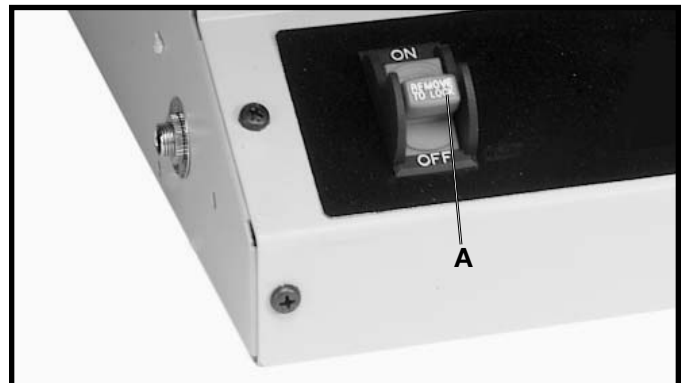

Fig. 14
The on/off switch (A) Fig. 14, is located on the front of the Router/Shaper cabinet. To turn the machine “ON,” move the switch (A), up to the “ON” position. To turn the machine “OFF,” move the switch (A), down to the “OFF” position.